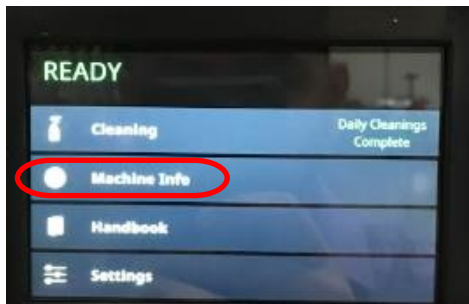

Figure 8a: Home Screen with Machine Info Circled.
- a. Select MACHINE INFO. See Figure 8a.